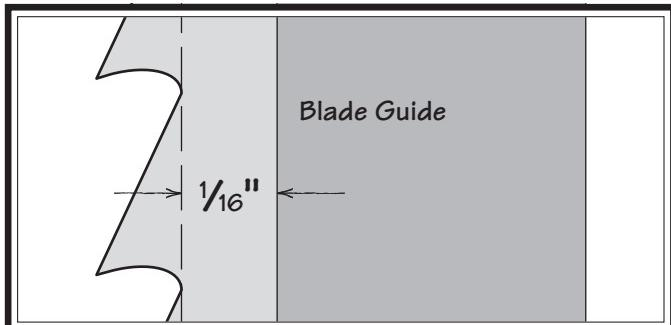

Figure 20. Blade guides positioned approximately $\frac{1}{16}$ " behind tooth gullets.
- Position the blade guides so that they are approximately $\frac{1}{16}$ " behind the tooth gullets (see **Figure 20**), then re-tighten the blade guide bracket cap screw.